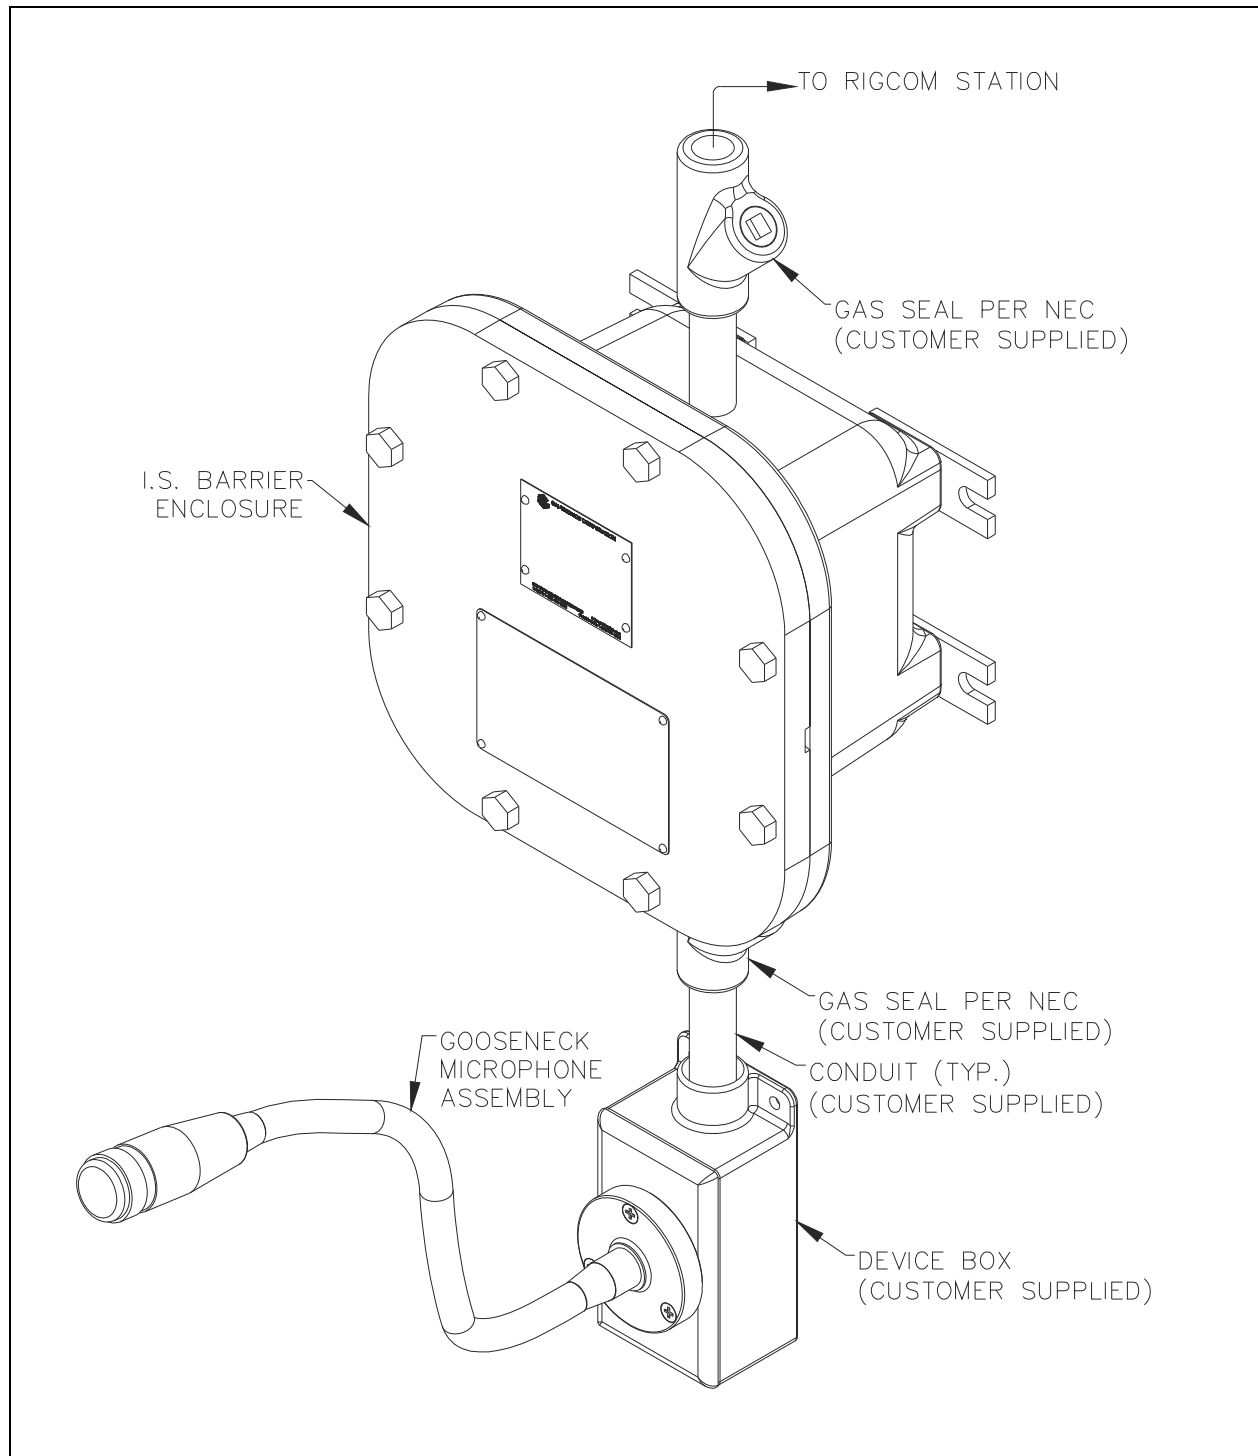

Figure 4. Typical Installation
2. Mount the gooseneck in accordance with all applicable electrical codes (see Figure 4 for a typical installation).